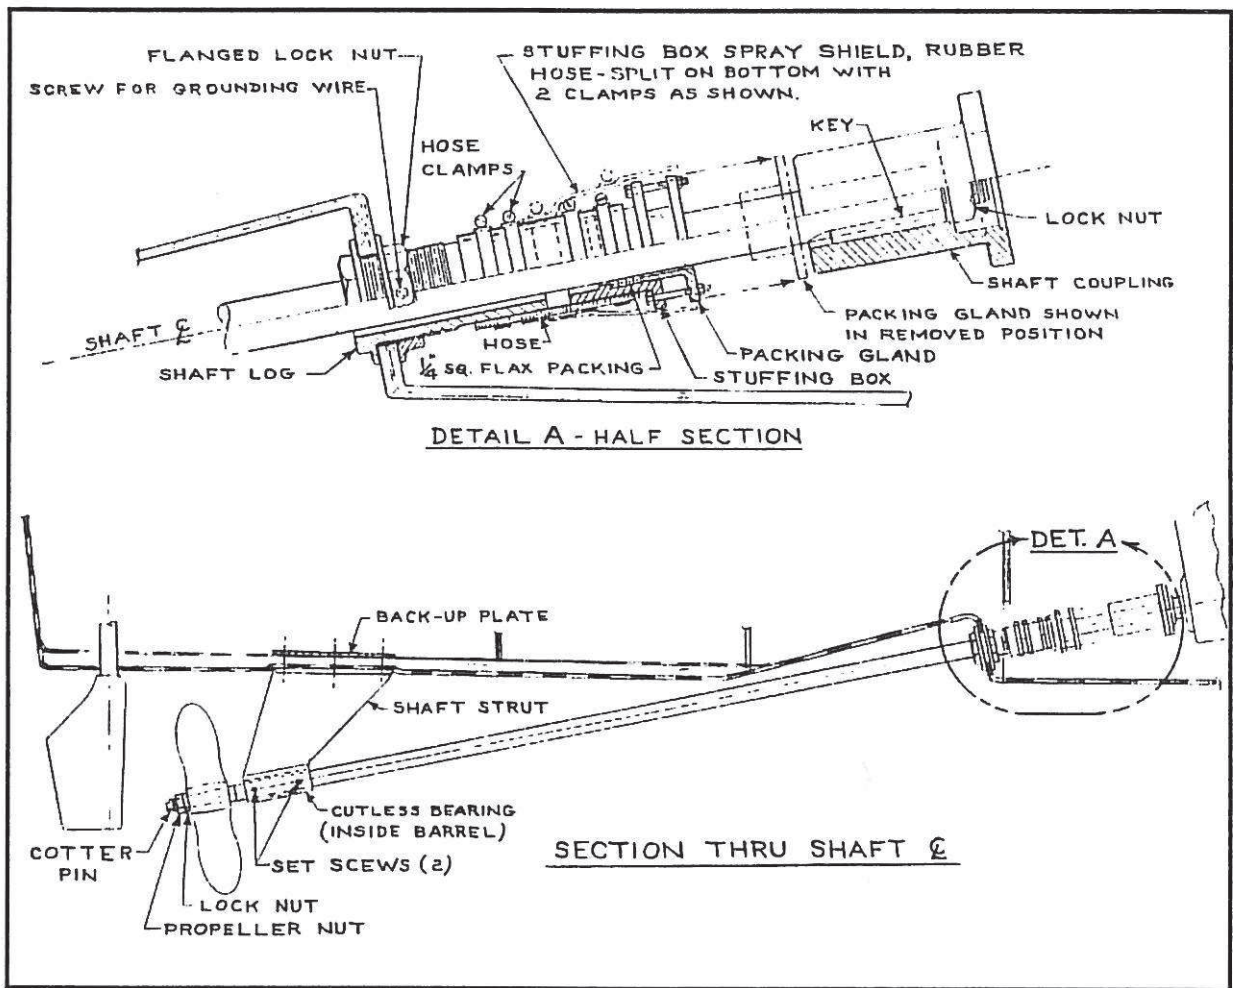

Figure 26 - The Drive Line Assembly
1. The Shaft Log. The shaft log recess is the tunnel in which each propeller shaft turns. In your Bertram, the shaft logs are a part of and are constructed of the same material as is the hull (as shown in Figure 26, Drive Line Assembly). Each stuffing box is attached to its shaft log recess by a flexible hose held in place by hose clamps. This flexible hose serves to absorb any normal shaft vibration.